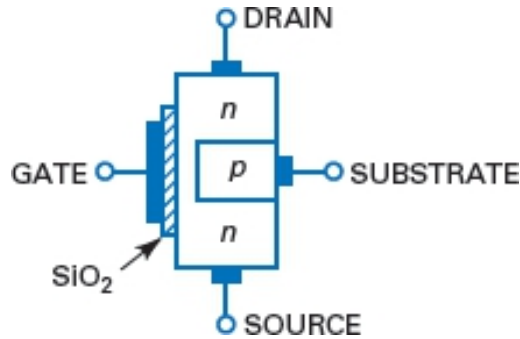

Figure-27 Depletion-mode MOSFET
- Figure-27 shows a depletion-mode MOSFET, a piece of n material with an insulated gate on the left and a p region on the right. The p region is called the substrate.